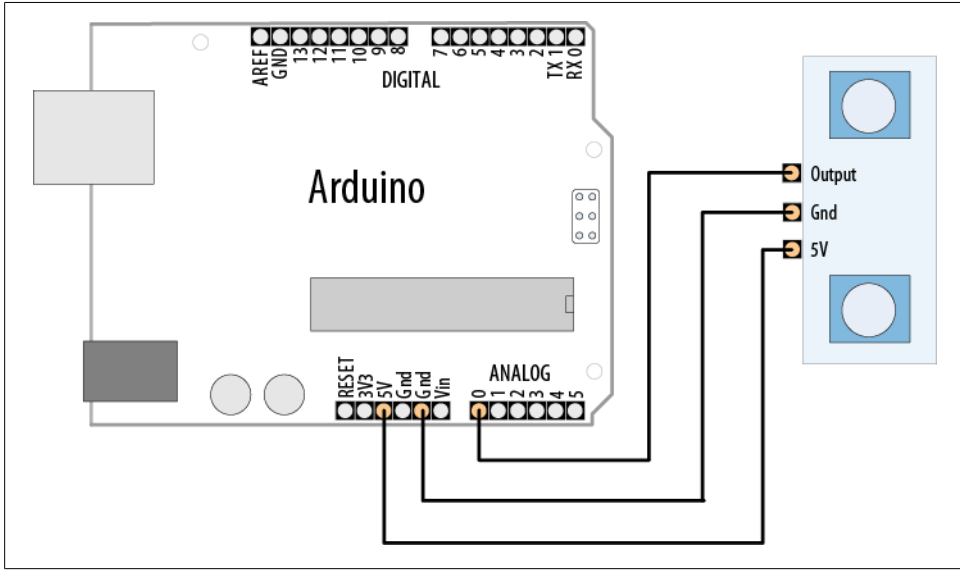

Figure 6-6. Connecting the Sharp IR distance sensor
Infrared (IR) sensors generally provide an analog output that can be measured using `analogRead`. They can have greater accuracy than ultrasonic sensors, albeit with a smaller range (a range of 10 cm to 1 m or 2 m is typical for IR sensors). This sketch provides similar functionality to Recipe 6.4, but it uses an infrared sensor—the Sharp GP2Y0A02YK0F (Figure 6-6 shows the connections):